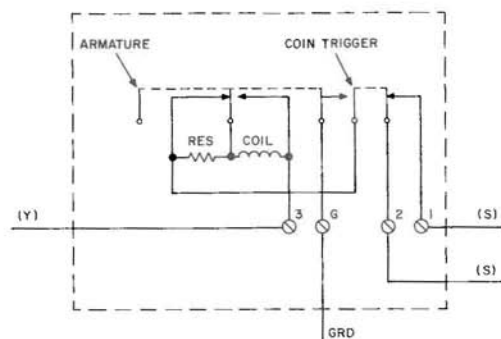

Fig. 27—Single-Coil, Slow-Release Coin Relay
5.32 The single-coil, slow-release, coin-relay switch assembly, in addition to ground and dial-shorting contacts, has a 3-spring break-make combination which functions to short-circuit either a resistor or the relay coil as shown in Fig. 27 and as covered in 5.41.
5.41 The slow-release feature is obtained by short-circuiting the coin-relay winding near the end of the operate stroke (Fig. 27). During the holding period the 1000-ohm resistor is substituted for the short-circuited relay coil. This protects the coin battery resistance lamps in the central office from a current surge and protects the coin-relay ground contacts from excessive arcing when they open while coin battery is still applied to the line. To prevent reoperation of the relay, the ground contacts are opened on the release stroke before the short circuit is removed from the relay coil.